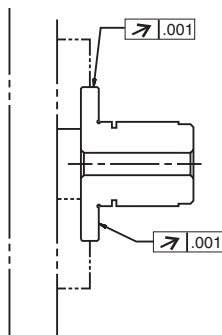

Figure 1
- B. Chuck on flange of hub and align as illustrated (Figure 1).